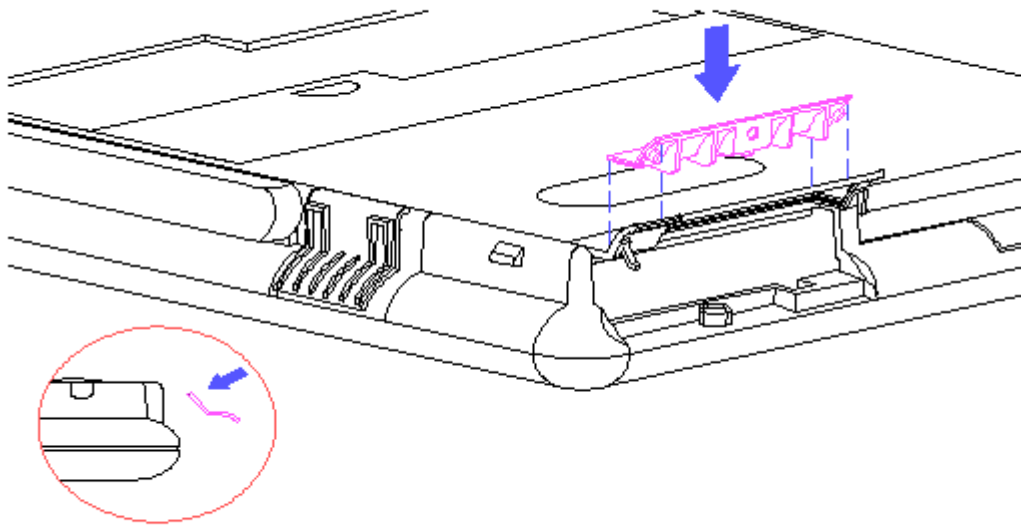

Figure 3-24. Installing the PCMCIA Hard Drive Bezel
5. Replace the bezel by snapping it into place from the outside of the PCMCIA door. You can do this with the PCMCIA door closed. Engage the edge closest to the pivot points, then snap the other side into place (Figure 3-24).